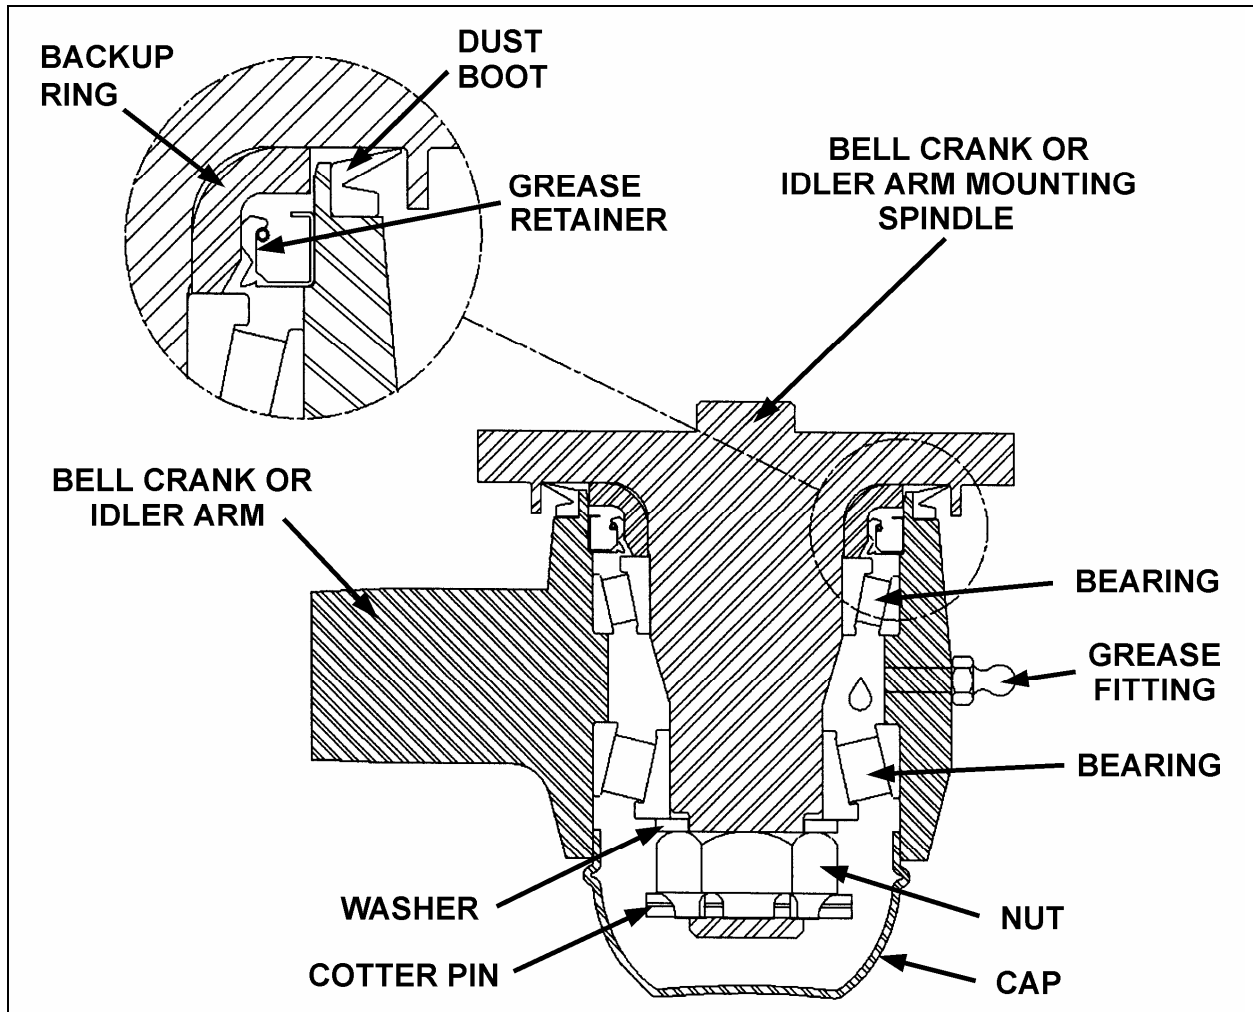

FIGURE 11: BELL CRANK AND IDLER ARM
2. Remove the cap (Fig. 11).
3. Remove the cotter pin, nut and thrust washer. Remove bearings, grease retainer, backup ring and the bell crank or idler arm from its mounting spindle (Fig. 11).
2. Install grease retainer and bearing in bell crank or idler arm eye (Fig. 11).
Install grease retainer according to figure 11. Grease must be able to exit the bell crank or idler arm mechanism. For grease retainer installation use tool Prévost # 110683.
*Bend cotter pin around the nut (Fig. 11). Do not bend the cotter pin in the direction of the cap, because it may interfere with the cap.*